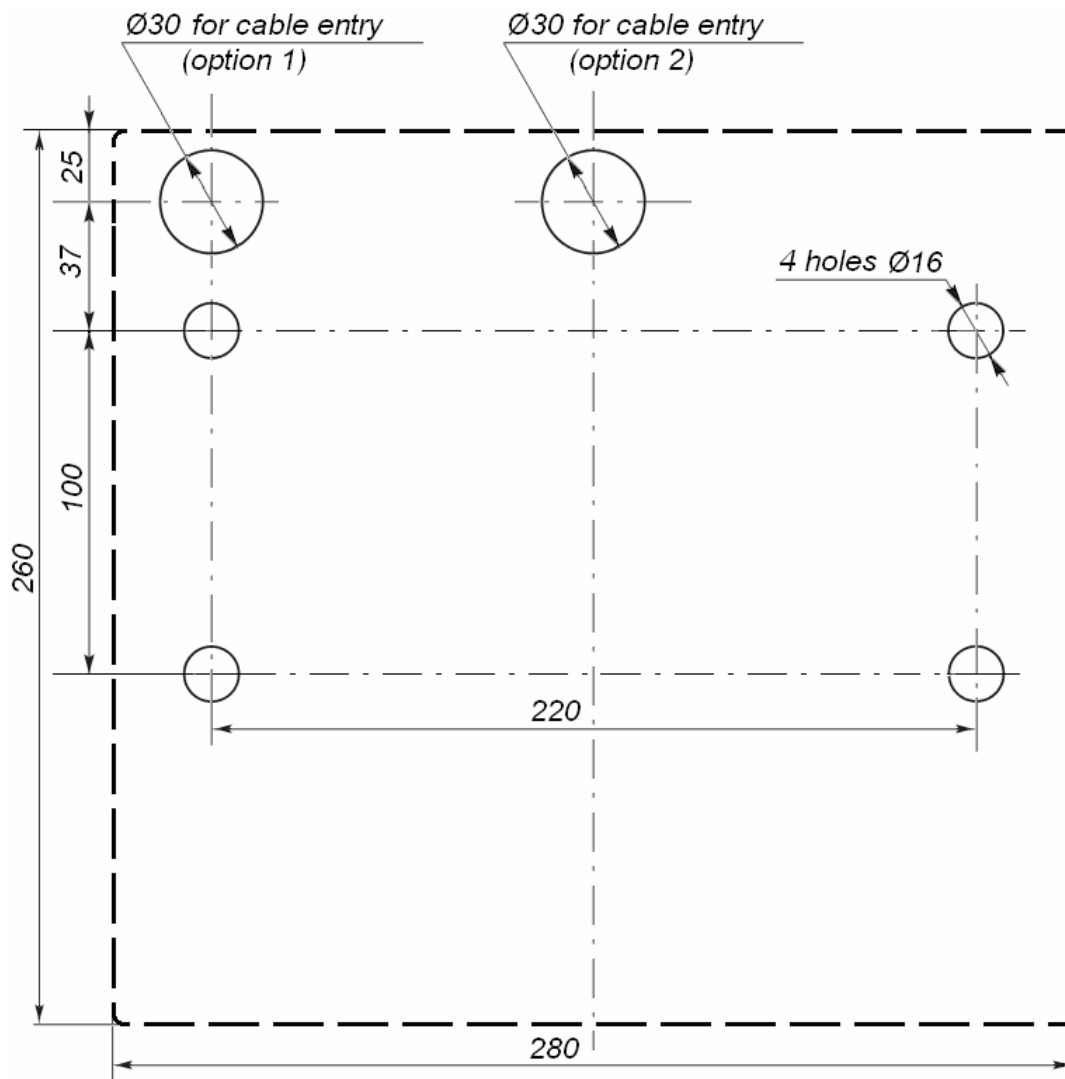

Figure 11. Floor anchor position and cable entries for housing installation
- to mark the mounting holes according to Fig. 11;
2. Make the holes for anchor bolt (12) sleeves for the turnstile housing installation (Fig. 11). If you lay out cables under the floor surface, make an electric raceway to the cables laying zone of the turnstile housing (option 1 or 2 in Fig. 11).